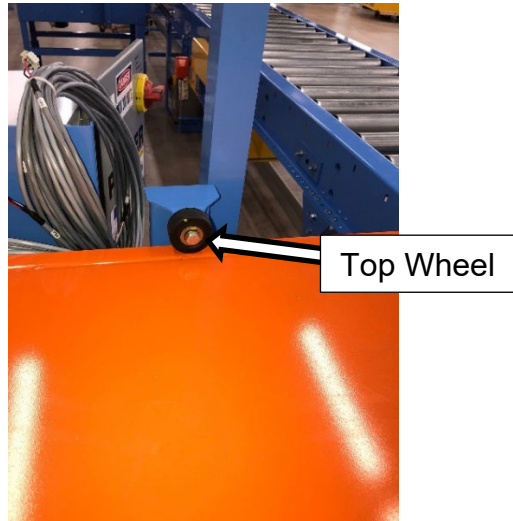

Figure 11. Top Wheel with Blade Retracted
9. Move the Blade to the fully retracted position (Figure 11).